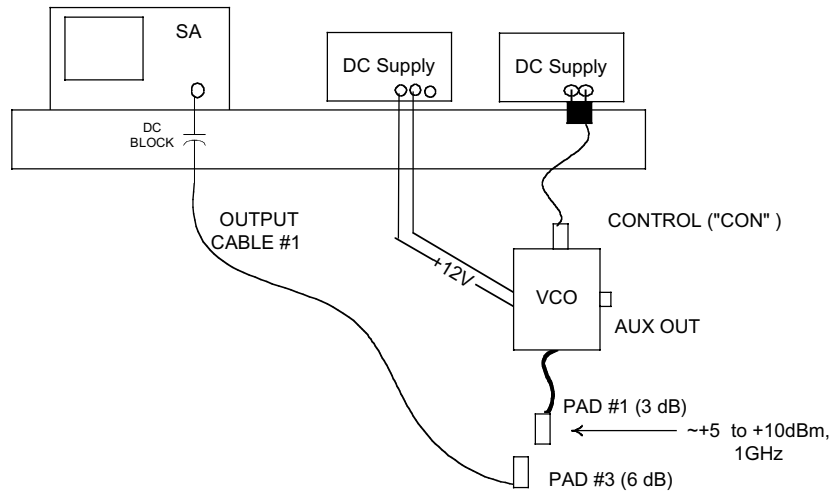

Figure 3. Local Oscillator Signal Set-up and Power Level Determination
- 1) Set the internal attenuator on the SA to a setting of 30dB by pressing “AMPLITUDE” => “ATTEN” and using the arrow keys or keypad to set the attenuator to 30dB. Set the REF LVL to 10dBm, also under the “AMPLITUDE” menu. Make the connections to the VCO output as indicated in Figure 3. **Note the short 4” section of semi-rigid cable and 3dB pad connected to the output of the VCO. Leave it connected this way throughout the laboratory.**